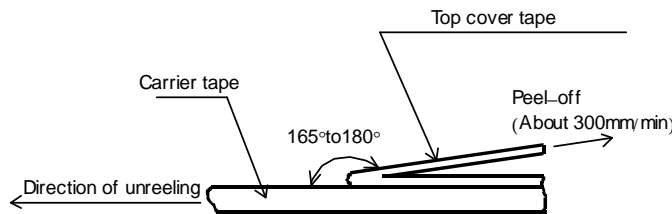
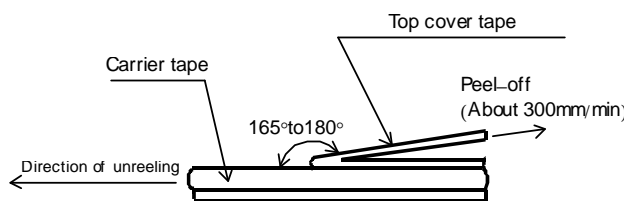
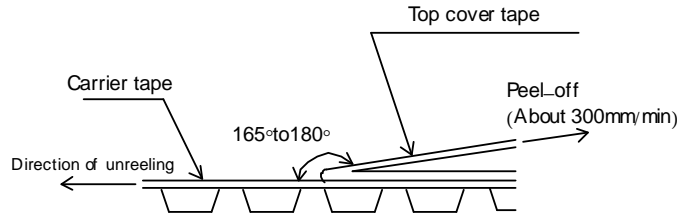

Figure-10
Figure-11
Figure-12
- 5). The peel strength of the top cover tape shall be with in 0.1N to 0.5N on the test method as shown in the following RMC1/32,1/20: Figure-10, RMC1/16S, 1/16, 1/10, 1/8: Figure-11, RMC1/4, 1/2, 1: Figure-12.